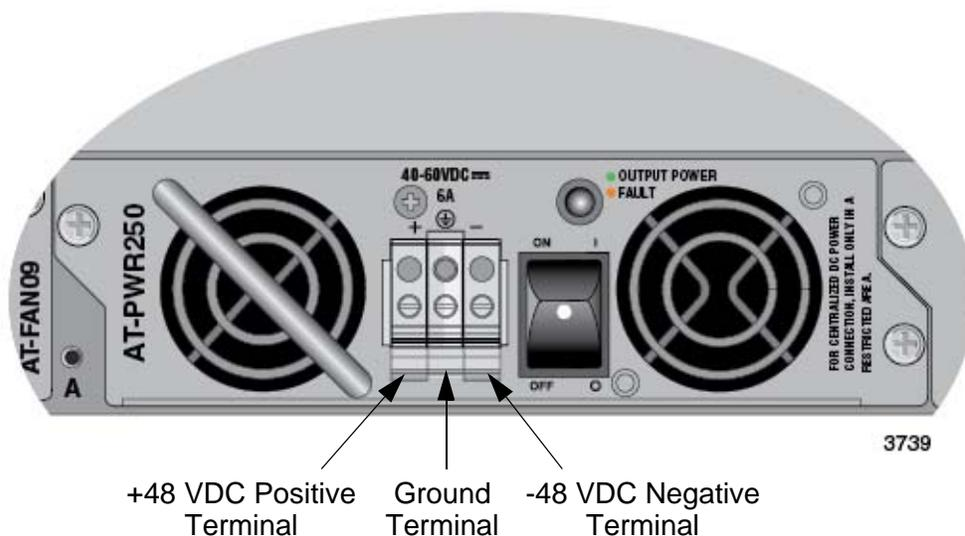

Figure 54. DC Terminal Block
- Use the legend above the terminal block to identify the terminals. The terminals are **positive**, **power supply ground** and **negative**, from left to right, as shown in Figure 54.